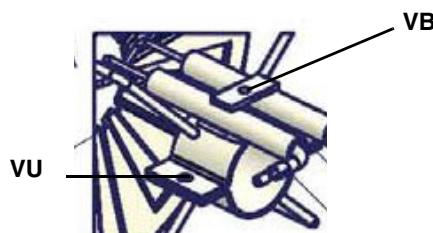

Fig. 16
- Check and clean the ignition electrodes, adjust and, if necessary, replace (Fig. 16).